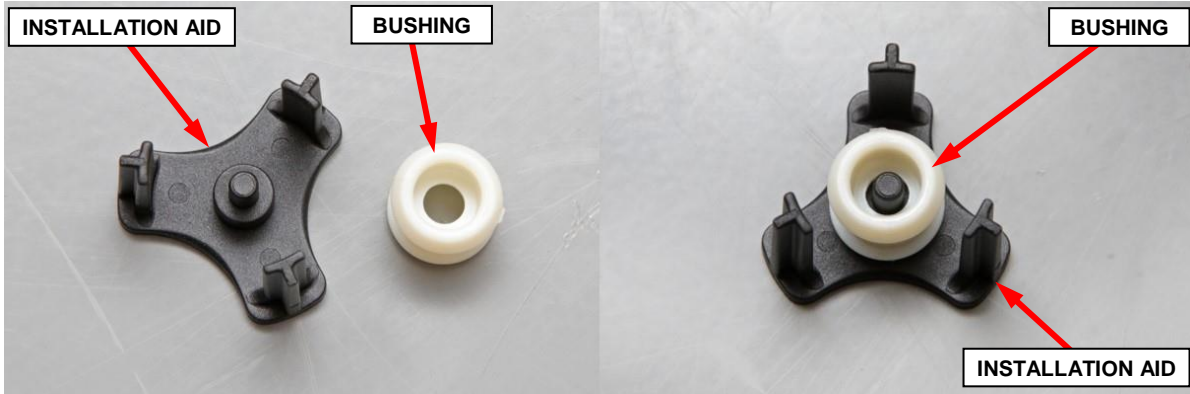

Figure 6 – New Bushing and Installation Aid
9. Install the NEW bushing onto the center pin of the installation aid (Figure 6).